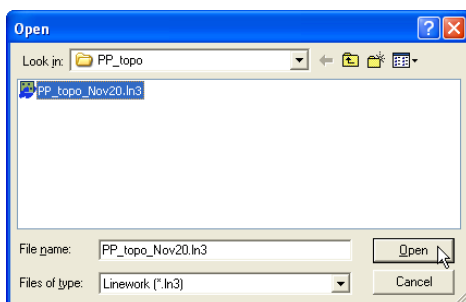

Figure 4-1. Open 3D Linework File
2. On the *Open* dialog box, navigate to the location of the desired file, select it, and click **Open** (Figure 4-1).